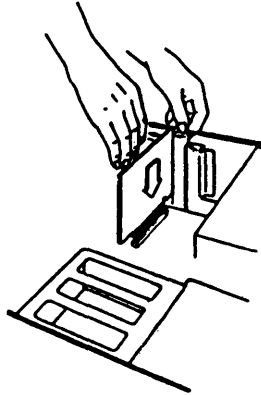

Figure 9 : Installing the Magic I/O
4. Gently, but firmly, insert the Magic I/O card all the way into the expansion slot. Make sure the gold connecting fingers snap all the way into place. See Figure 9.